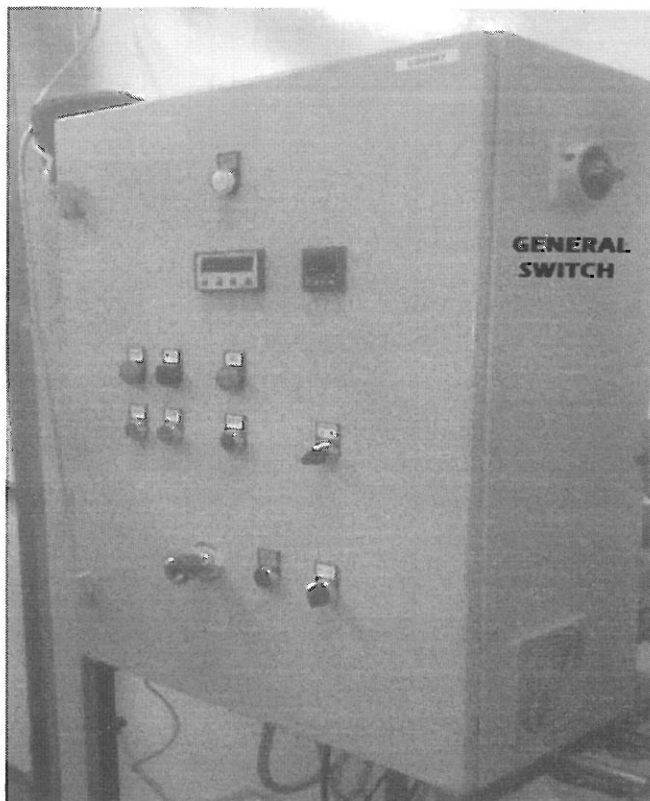

Fig. 1. Isometric view of the Control Panel, indicating the General Switch on the right side
- 10.1. Switch on the WPU panel control by activating the red General Switch, on the right part of the front panel (see figure 1).